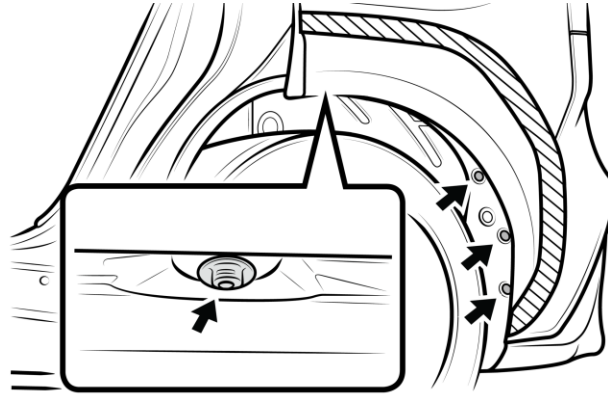

Fig 3-1
- (b) Remove 10mm screw and 2 push pins and plastic Nut from LH sides (Fig. 3-1)